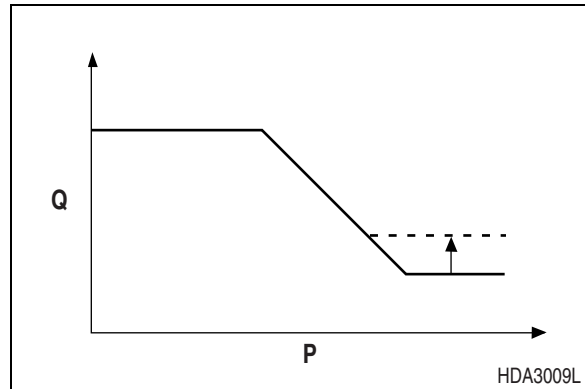

Figure 11
To increase minimum discharge flow (also by 5.6 lpm [0.025 gpm]), tighten adjusting screw (953) by 1/4 turn. Figure 11 shows the effect of this adjustment on the output characteristics of the pump.